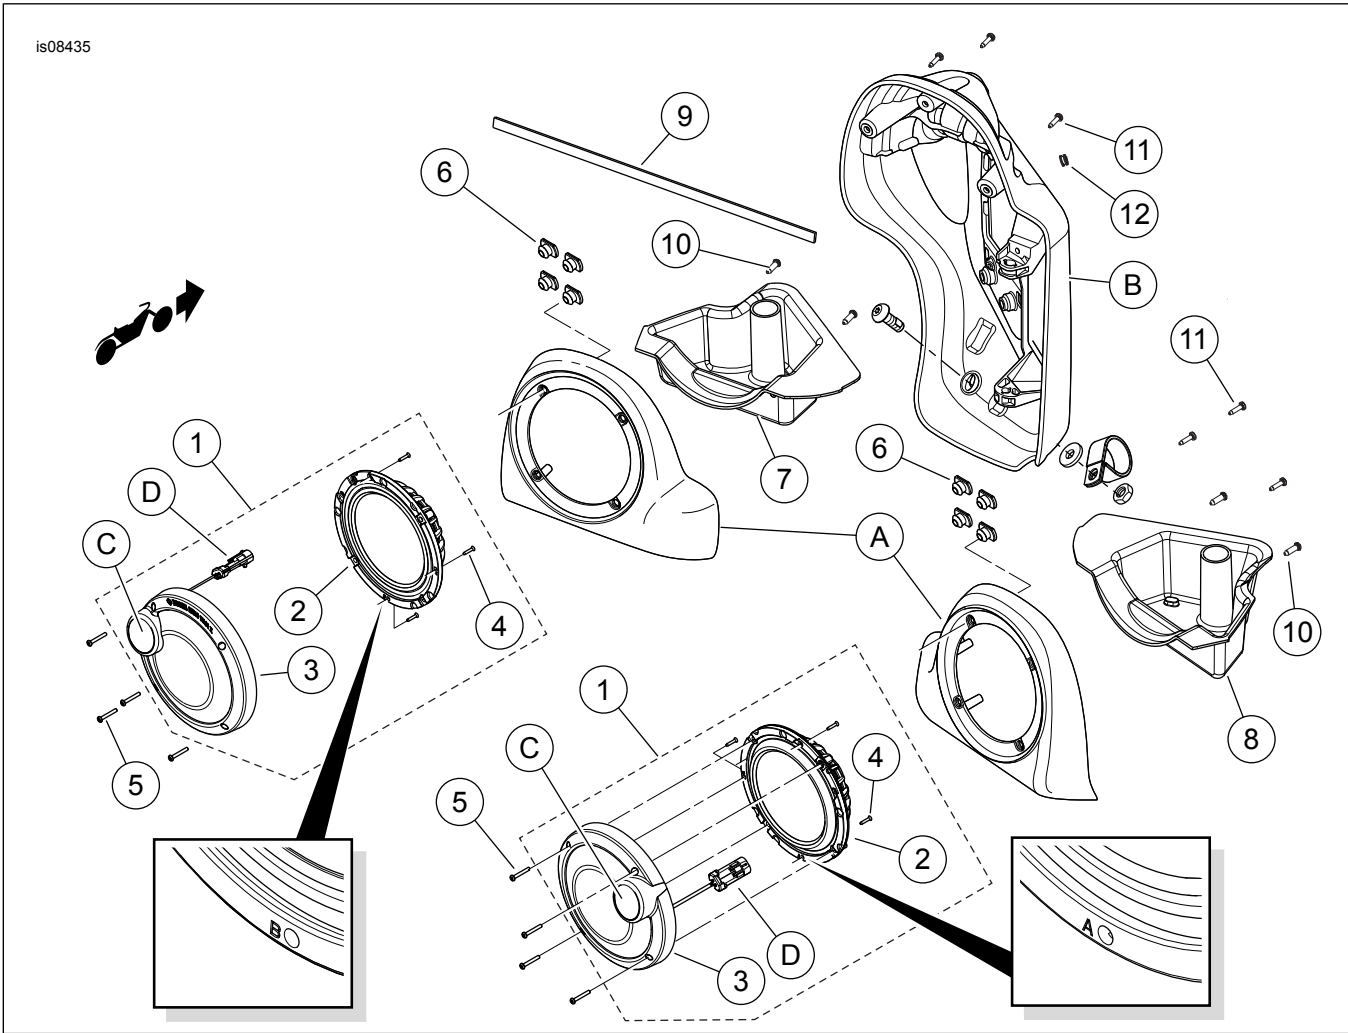

Figure 12. Service Parts, Boom! Audio Stage II Fairing Lower Speaker Kit
To ease assembly, first install the screws (see Figure 12, item 10) into the enclosure without the tray. Remove the screws.
15. See Figure 12. Separate the split grommet (12). Install the grommet around the harness leg. Install into the drilled hole in the fairing.
19. See Figure 12. Attach the speaker wire connectors inside the speaker enclosure to the spade terminals on the back of the **new** woofer. Different size spade contacts prevent improper assembly.
20. Connect the two-way audio connector of the amplifier harness to the mid-range and tweeter connector (D).
21. Rotate the speaker assembly (1) so the tweeter (C) is 45 degrees outboard from the top.
22. Install the speaker assembly onto the speaker enclosure with the four screws (5) from the kit.